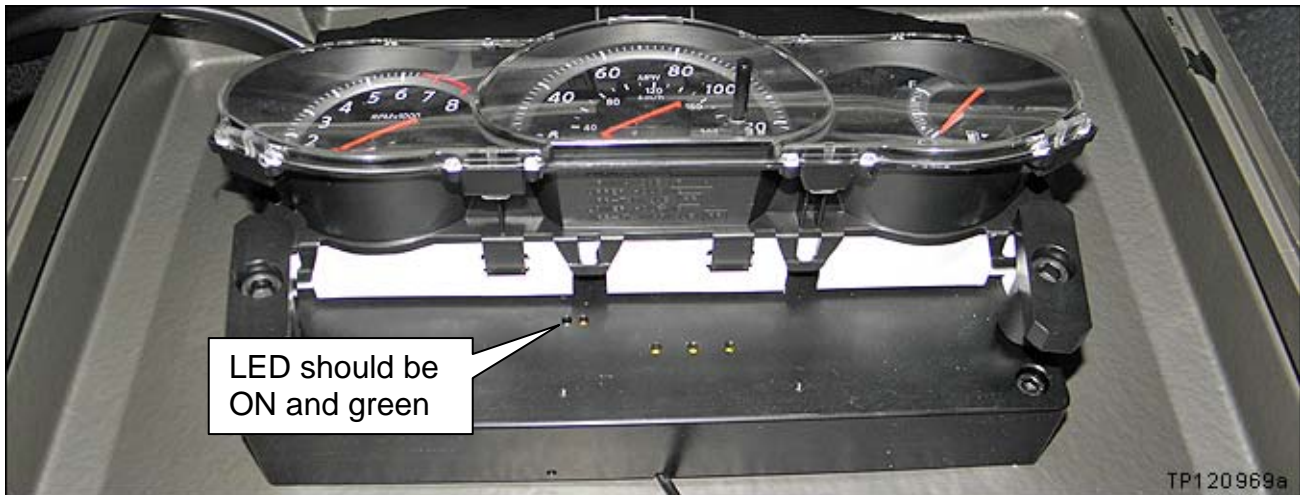

Figure 1e
3. The left side LED on the Reprogramming tool should be ON and Green (see Figure 1e).